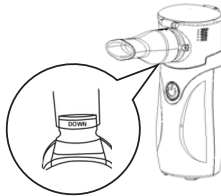

Fig. 8
- a. Connect mouthpiece to mesh outlet. (Refer to Fig. 8)